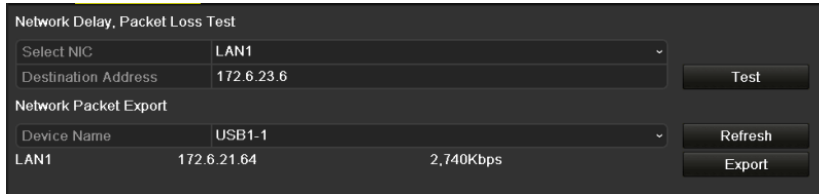

Figure 11-27 Export Network Packet
Step 3 Select the backup device from the dropdown list of Device Name, as shown in Figure 11-27.